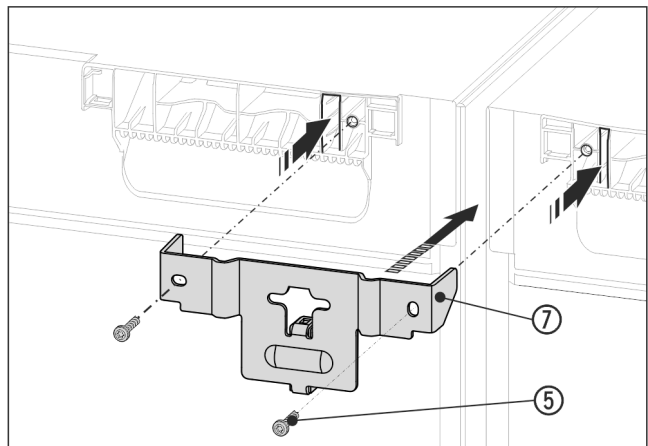

Fig. 15 Example illustration
- Slide the bracket Fig. 15 (7) with the spacer between the appliances and onto the appliance ceiling with the lugs. Tighten with 2 screws Fig. 15 (5).